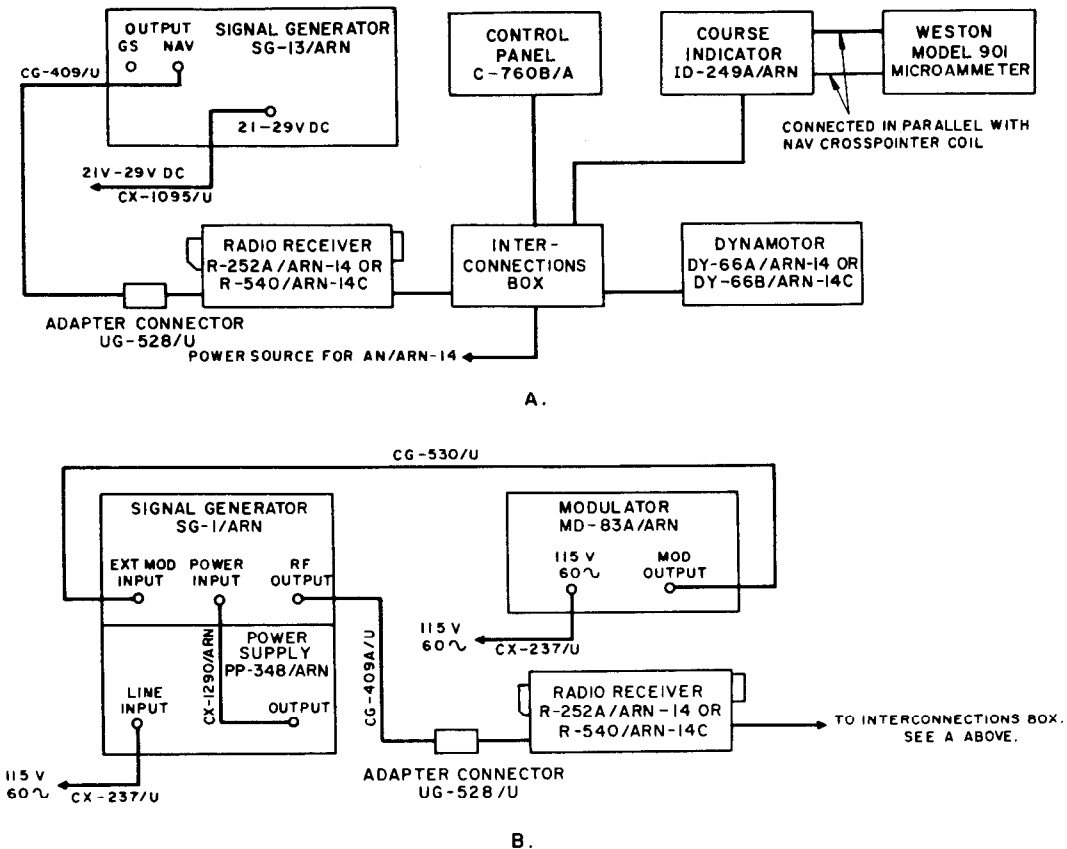

Figure 5-1. Test Setup, VOR Accuracy Check
- a. Connect the signal generator through a 6-db, 53-ohm attenuator pad UG-528/U to an AN/ARN-14 navigation receiver equipped with omni bearing selector (OBS) and Course Indicator ID-249A/ARN. See A of figure 5-1 for connections and omit the microammeter.
- g. Disconnect the signal generator and substitute Modulator MD-83A/ARN modulating Signal Generator SG-1/ARN with a standard VOR signal. See B of figure 5-1 for connections and omit the microammeter. Do not change the setting of SET control on Course Indicator ID-249A/ARN.
a. Connect Signal Generator SG-1/ARN modulated with Modulator MD-83A/ARN to an AN/ARN-14 receiver equipped with Course Indicator ID-249A/ARN. Use a 6-db, 53-ohm attenuator pad at the receiver input and connect Weston Model 901 microammeter in parallel with the NAV crosspointer coil in ID-249A/ARN. See B of figure 5-1 for connections.
d. Substitute Signal Generator SG-13/ARN set to 110.1 mc for the MD-83A/ARN and SG-1/ARN combination. See A of figure 5-1 for connections.